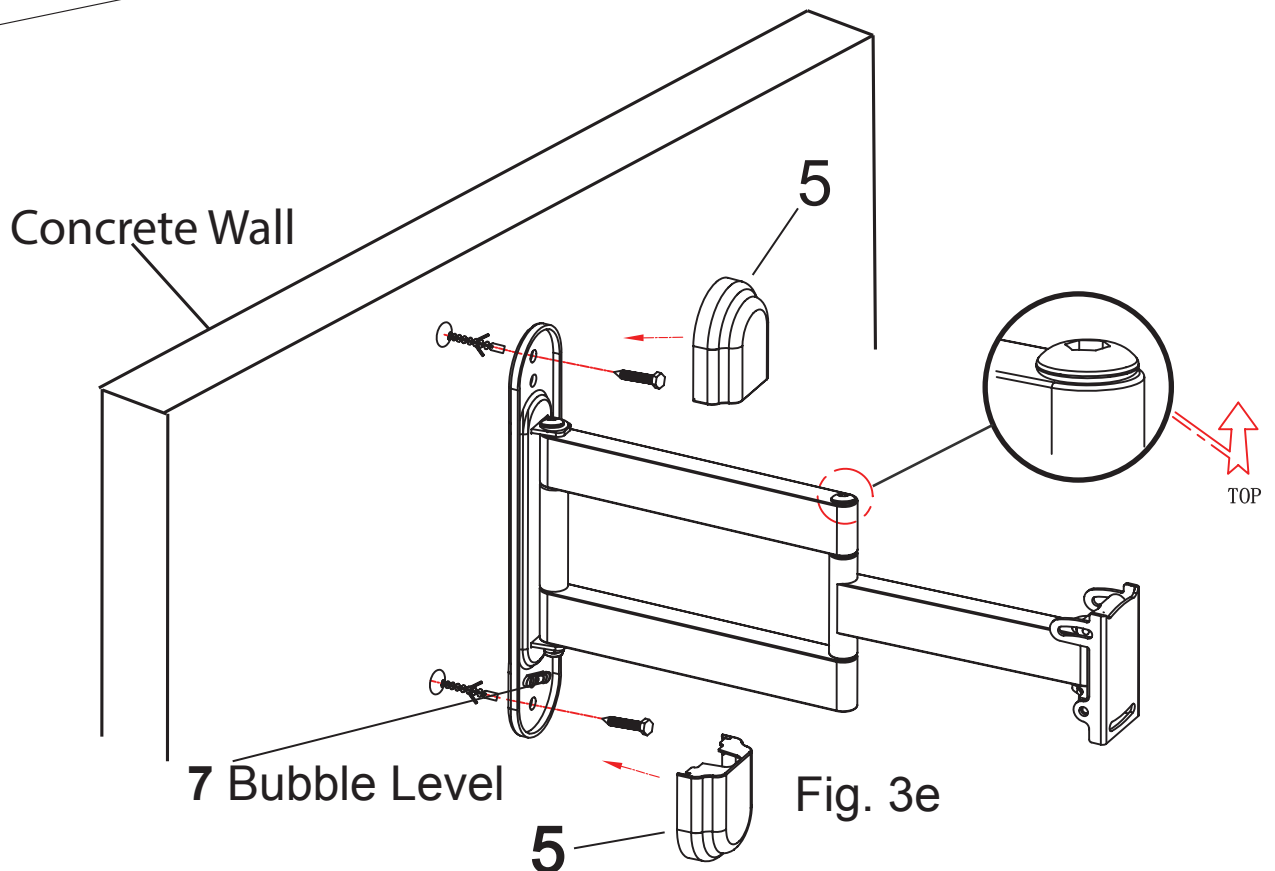

Fig. 3e
3. Insert a wall anchor (B) into each pre-drilled hole and lightly tap it with a hammer until the wall anchor is flush with the wall.
4. Use the Socket tool (Q), the two long bolts (A), and Washers (C), to attach the wall mount to the wall.
5. Use the bubble level (7) on the front of the mounting plate to level the wall mount, repositioning as necessary, then securely tighten the bolts.
6. Press the covers (5) on to each end of the Wall plate (Fig.3e).